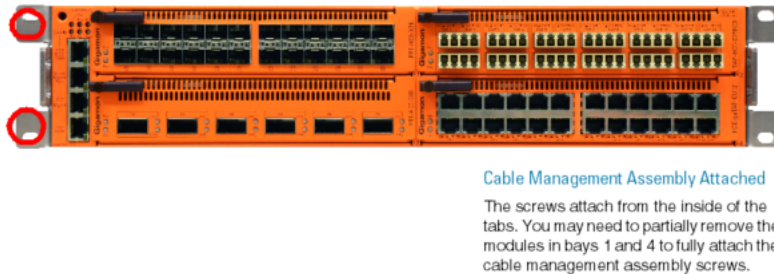

Figure 8: Cable Management Assembly Attached to Node
If you installed the custom rack ear for the cable management assembly in Step , you can now attach the assembly using the four screws provided. The screws attach through the recessed holes on the inside of the rack ear and into the cable management assembly, as shown in Figure 8: Cable Management Assembly Attached to Node.
4. As shown in Figure 8: Cable Management Assembly Attached to Node, the thumb screws on the cable management assembly's front panel allow quick removal and reattachment whenever you want to route cables.